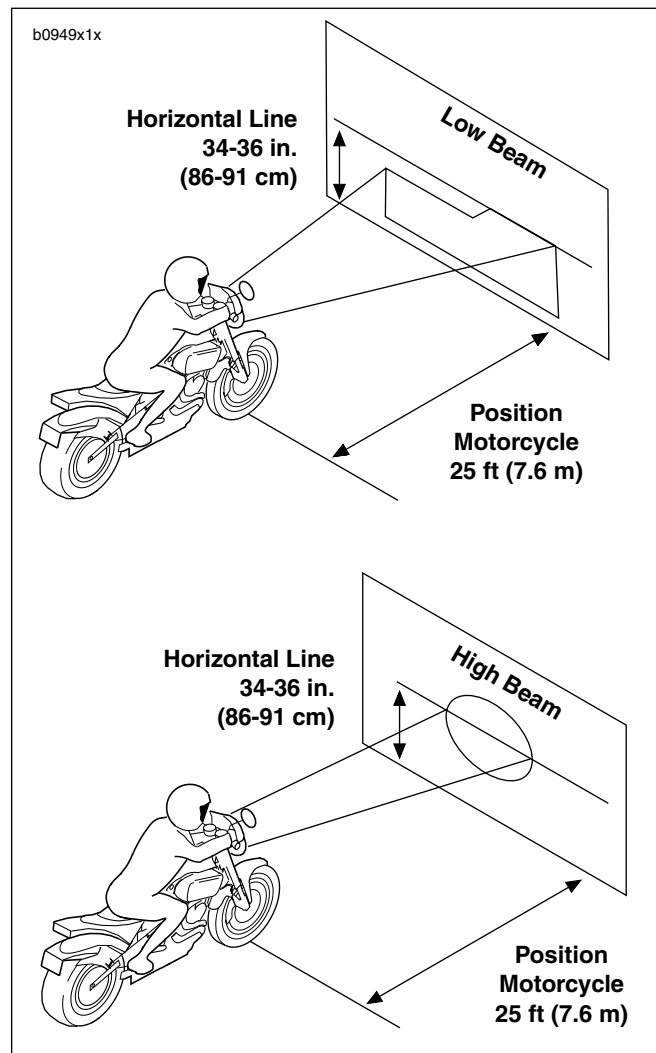

Figure 1-53. Checking Headlight Alignment
2. See Figure 1-53. Position motorcycle 25 ft (7.6 m) away from a screen or wall by measure the distance from the front axle to the screen/wall.
- c. Check that the correct pattern of light is a double rectangular pattern and is aligned with the horizontal line as shown in Figure 1-53.
- b. Check that the correct pattern of light is a circular pattern and is centered on the horizontal line as shown in Figure 1-53.